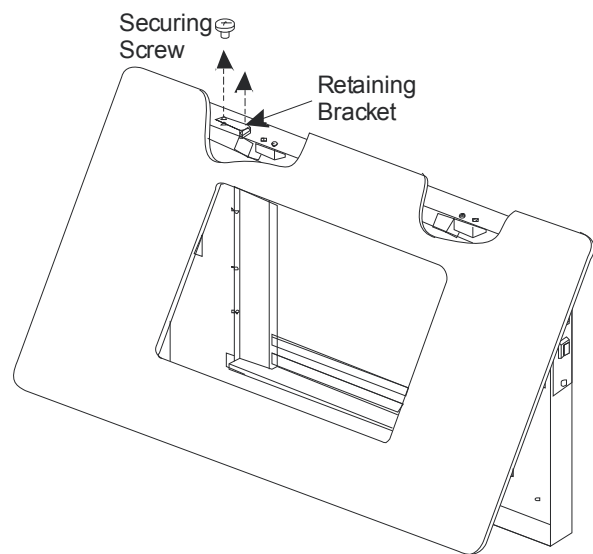

Figure 63
2. Remove the fascia retaining bracket by removing the fixing screw (see **Figure 63**).